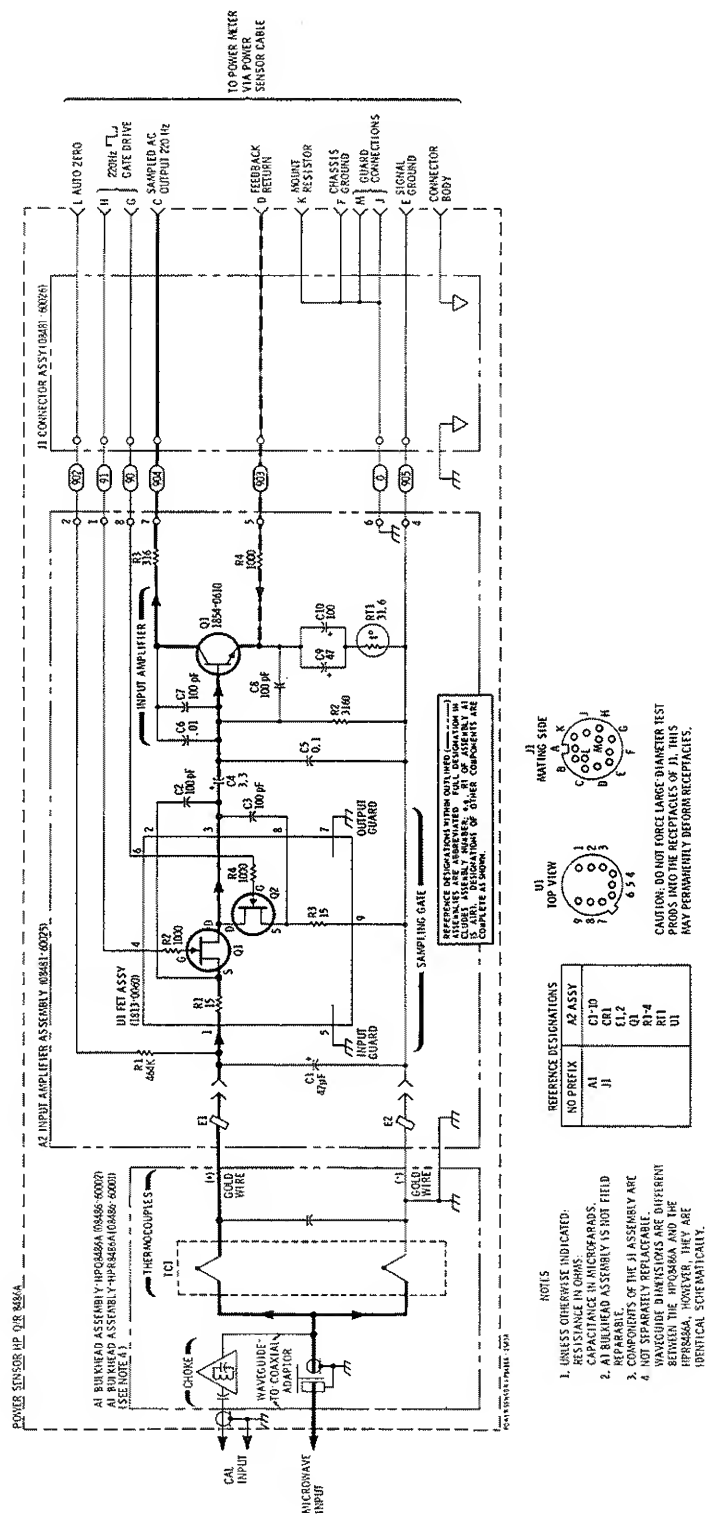
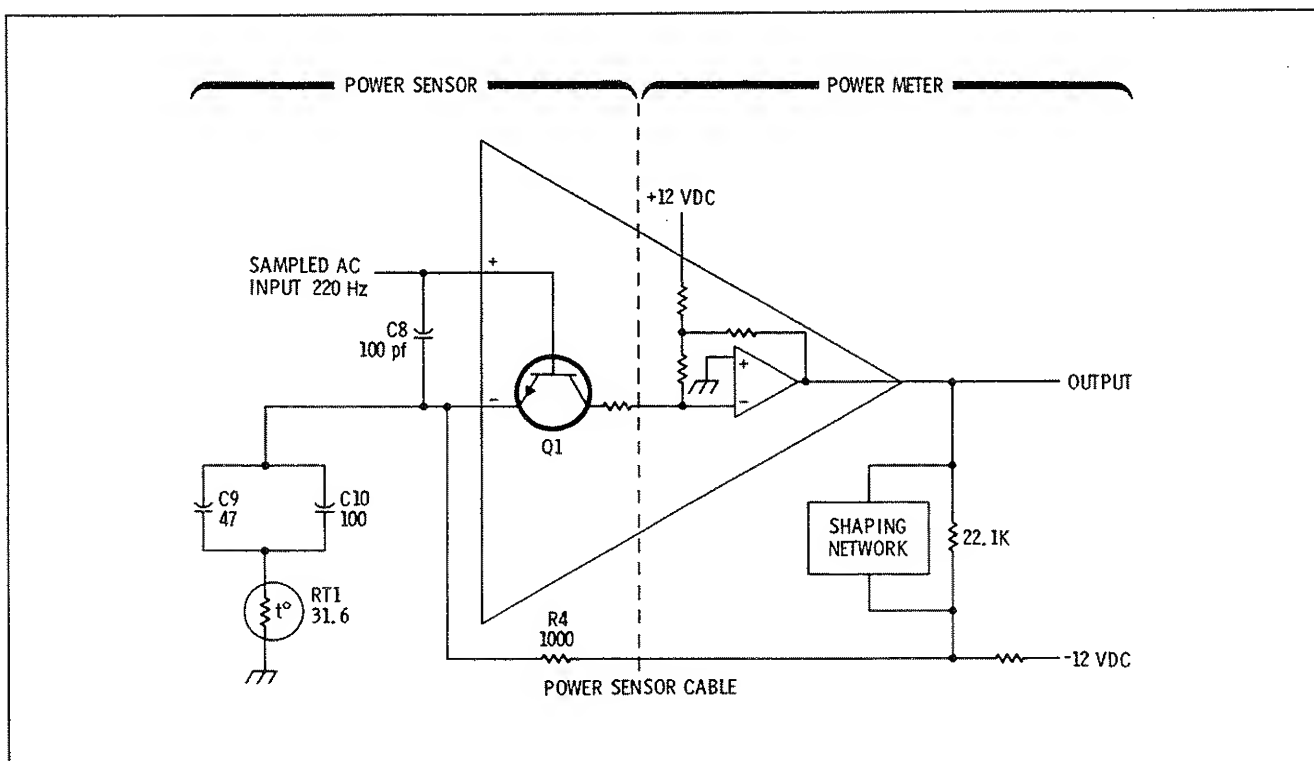

Figure 5. Power Sensor Schematic Component and Assembly Locations
Figure 6. Operational Amplifier
For the following discussion, refer to the schematic diagram in Figure 5 and the simplified diagram of the operational amplifier in Figure 6. The operational amplifier is made up of the Power Sensor input amplifier, A2Q1, and the first amplifier stage in the power meter.
The dc output from the bulkhead assembly is applied to the two field effect transistors (FETs) in A2U1. These transistors function as a sampling gate or chopper. The sampling rate is controlled by a 220 Hz square wave supplied by the power meter. The amplitude of the sampling gate output (at pin 3 of A2U1) is a 220 Hz square wave proportional to the power input. The sampled 220 Hz ac output is applied to the input amplifier A2Q1 which is the input stage for an operational amplifier (Figure 5). The ac gain of the operational amplifier is approximately 700.
In most cases, the operational amplifier (made up of A2Q1 and the first amplifier in the power meter, (Figure 6) is operating correctly if the dc voltage on the metal cover of A2Q1 (collector) is -70 ± 30 mV dc.
- a. At rear of Power Sensor, insert blade of small screwdriver between the plastic shells (Figure 6).